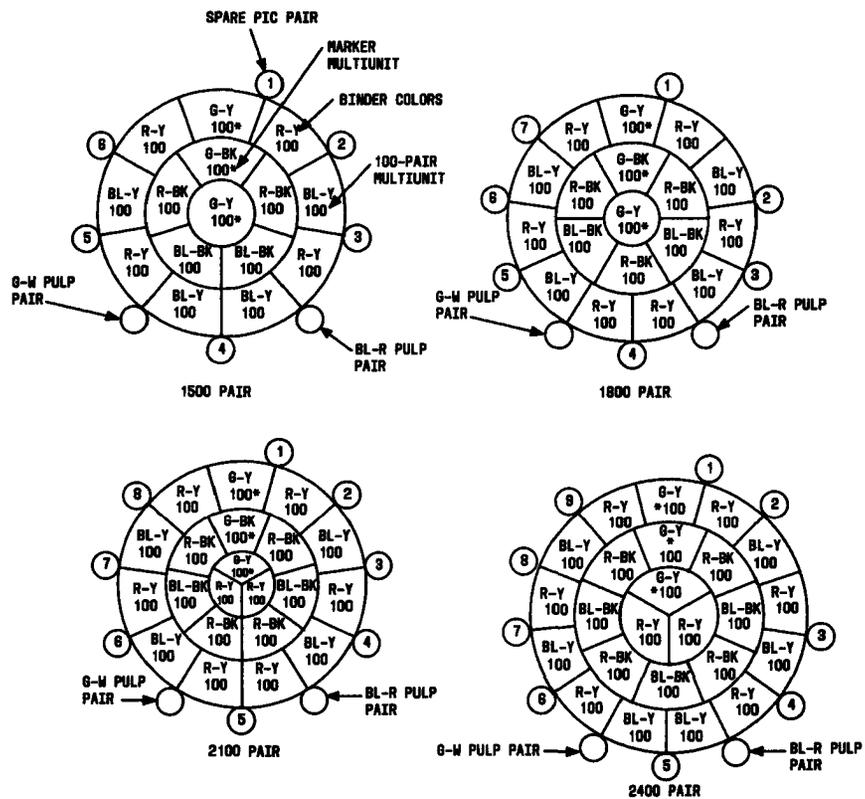

Fig. 2—1500-Through 2400-Pair 24-Gauge DUCTPIC Cable Core
5.05 The DUCTPIC cable core for pair sizes 3600 and less is composed of 100-pair multiunits. The 4200-pair DUCTPIC cable uses 300-pair multiunits. Multiunit identification in DUCTPIC cable is "PIC mirror image". DUCTPIC cable multiunits have two colored, plastic binders wrapped around each multiunit; one to define a multiunit position within a layer, and a second to define its layer within the cable. The green multiunit binder is the marker unit that establishes the starting point for counting within the layer. The green multiunit is flanked by red multiunits, then blue multiunits, then red, etc. A multiunit second binder color is yellow if it is in the outer layer of a cable core, black if it is the next layer in, then yellow alternating with black for each progressive layer. (See Fig. 2 and 3.)